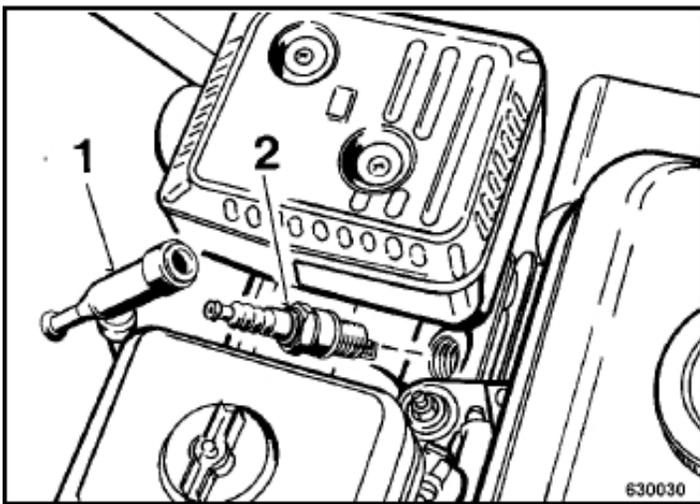

Fig. 37
- 1 Pull the spark plug socket 1 (Fig. 37) off and unscrew the spark plug.